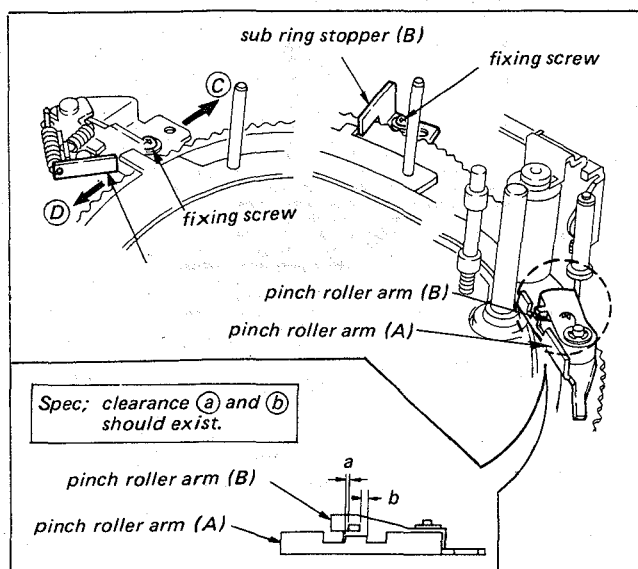

Fig. 6-3. Pinch roller self-alignment adj.
2. Confirm that the positional relationship between the pinch roller arm (A) and arm (B) meet the required specification shown in Fig. 6-3. If not, adjust as follows.